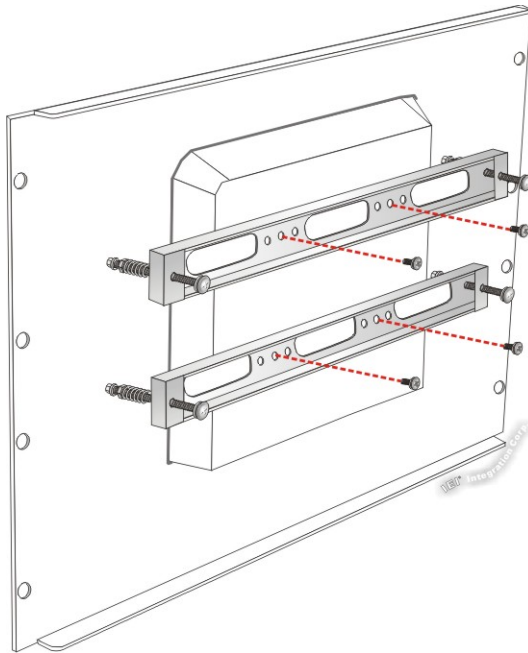

Figure 3-19: Securing Rack Mounting Brackets
Step 5: Secure the two rack mounting brackets to the rear of the panel PC by inserting the four retention screws into the VESA mounting holes and tightening them (Figure 3-19).